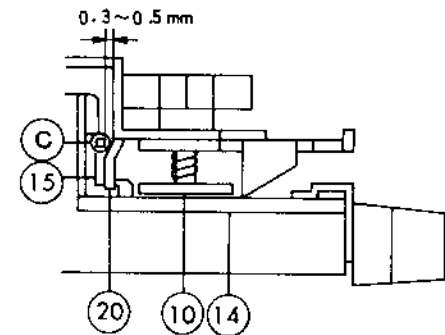

Fig. 31
8. Set film to 10 and 14, turn the knob main to DOUSER, and adjust by bending the "c" section of 15, so that the space between 15 and 20 is 0.3 - 0.5 mm. (See Fig. 31)